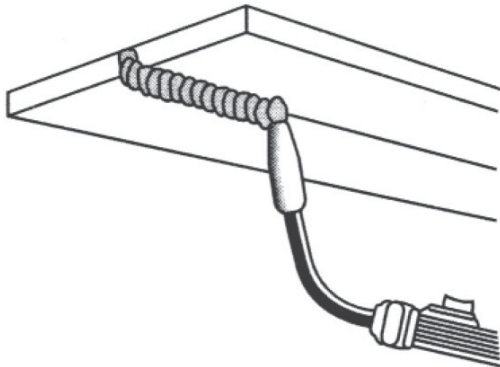

Figure 16. Overhead Position
4. The OVERHEAD POSITION (Figure 16) is the most difficult welding position because gravity is pulling at the weld puddle trying to make it drip off the work piece. Angle A (see HOLDING THE GUN - p.19) should be maintained at 60 degrees, the same as in the flat position. Maintaining this angle will reduce the chances of molten metal falling into the nozzle should it drip from the weld puddle. Angle B should be held at zero degrees so that the wire is aiming directly into the weld joint. If you experience excessive dripping of the weld puddle, select a lower heat setting. Also, the weave bead tends to work better than the stringer bead when welding overhead.